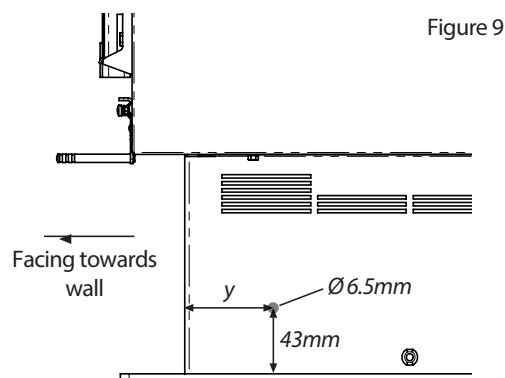

Figure 9
- Referring to figure 9, measure distance  $y$  from the front of the pedestal base at the side pointed towards the wall. Mark and drill a 6.5mm hole at this point, 43mm above the pedestal base on both sides of the appliance.